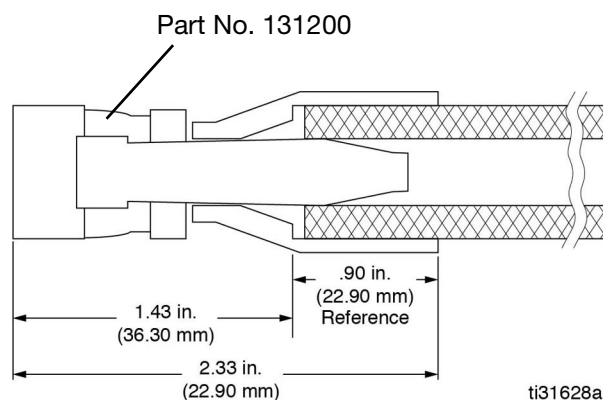

FIG. 59
After determining the final length of hose needed for the installation, install the reusable swivel fitting Part No. 131200 (included with the hose) to the bare end of the hose (see FIG. 59). Follow the Main Hose Assembly instructions provided in the next section of this manual (page 60).
3. Add 1.43 inches (36.30 mm) to the total hose length to accommodate the depth of the socket after it is installed on the end of the hose (FIG. 59).